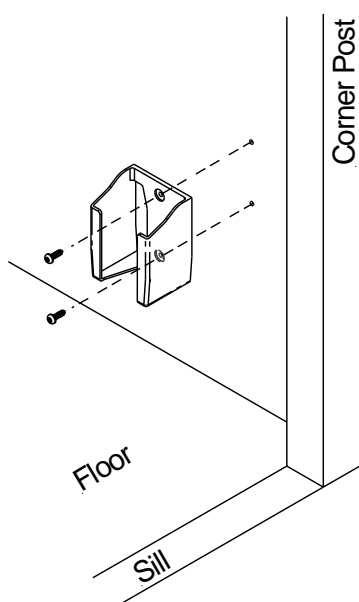

Fig. 25
1. Mount the holster approximately 30"-36" from the floor or determine the best location as preferred by the end user, **Fig. 25**.